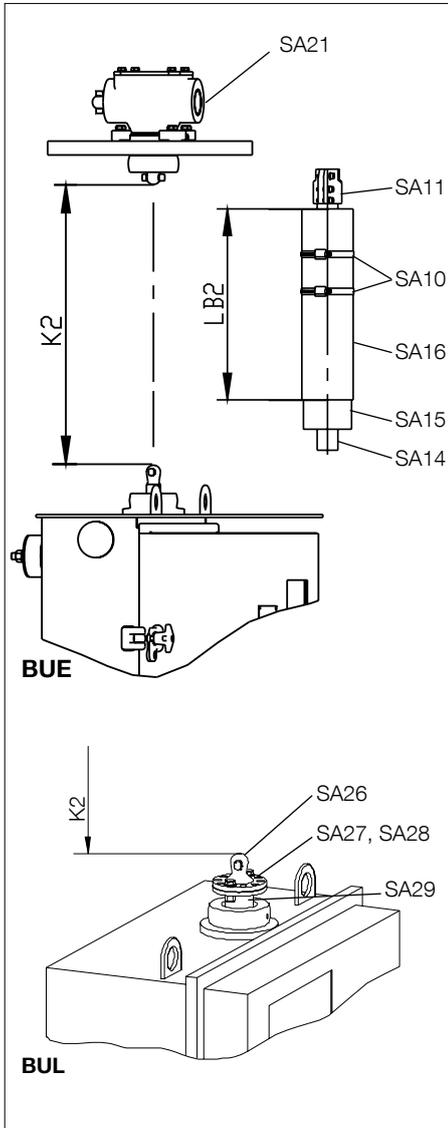

Fig. 27.
2. Determine the distance K2 between the spherical shaft ends; see Fig. 27.